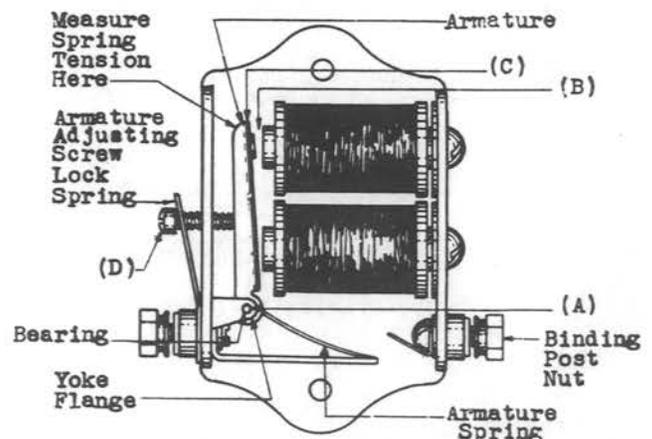

Fig. 1 - 12092 Buzzer
- 2.02 Freedom of Movement of Armature - Figs. 1 (A) and 2 (A) - The armature shall be free from bind in its bearings. Gauge by eye and by feel.
- 2.03 Armature Gap - Figs. 1 (B) and 2 (B) - With the armature in the non-operated position, the gap between the non-freezing disc on the armature and the pole face farther from the fulcrum shall be:
- 2.04 Armature Pressure - Figs. 1 (C) and 2 (C) - With the armature in the non-operated position, the pressure of the armature against the armature adjusting screw measured at the end of the armature farther from the fulcrum shall be:
- *2.05 Tightness of Adjusting Screws and Lock Nuts - Figs. 1 (D) and 2 (D) - The ad-